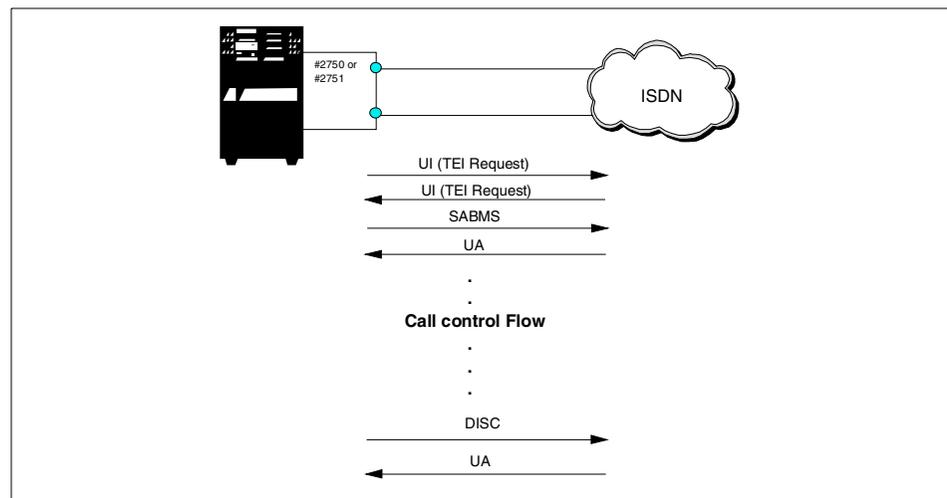

Figure 204. D-channel Layer 2 data flow
Layer 2 is in charge of establishing and ending the link between the AS/400 system and the network. D-channel Layer 2 is up once the Set Asynchronous Balance Mode Extension (SABME) and Unnumbered Acknowledgment (UA) frames are exchanged as shown in Figure 204. It is in charge of data link error handling procedures and multiplexing or de multiplexing the data for the different Service Access Points (SAP) in Layer 3 of the D-channel.